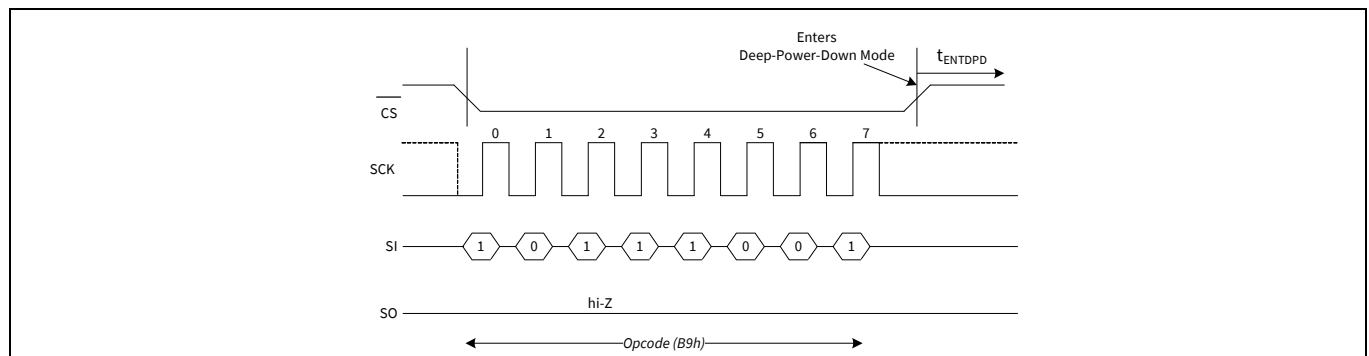
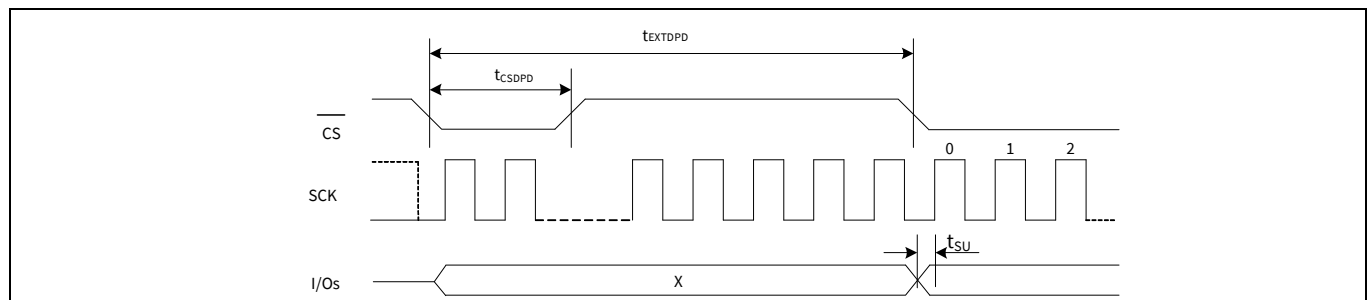

Figure 99 DPD entry in SPI mode
Figure 102 DPD exit in SPI mode
A $\overline{CS}$ pulse-width of t_{CSDPD} or hardware reset exits the DPD mode after t_{EXTDPD} time. The $\overline{CS}$ pulse-width can be generated either by sending a dummy command cycle or toggling $\overline{CS}$ alone while SCK and I/Os are don't care. The I/Os remain in hi-Z state during the wakeup from deep power-down. See Figure 99 for DPD entry and Figure 102 for DPD exit timing.
- The timing details shown in the Figure 99 are applicable as is in DPI and QPI modes.